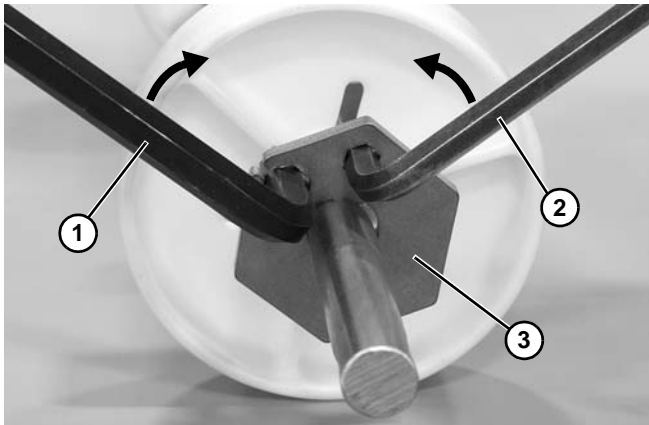

Figure 80
- a. Insert an 8 mm (**Figure 80, item 1**) and 6 mm (**Figure 80, item 2**) hex wrench into the retainer plate.
- b. Move wrenches toward each other to open the retainer plate (**Figure 80, item 3**) and install onto the shaft. Position retainer plate where needed.